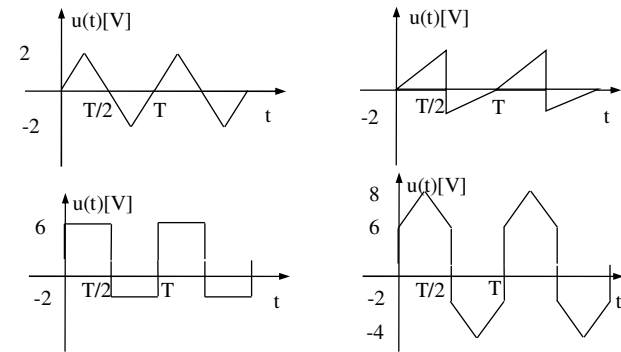

Figure 4: Time-domain representation of signals
2. Compute the average rectified voltage and the RMS voltage of the signals in figure 4 (write the computations in detail):